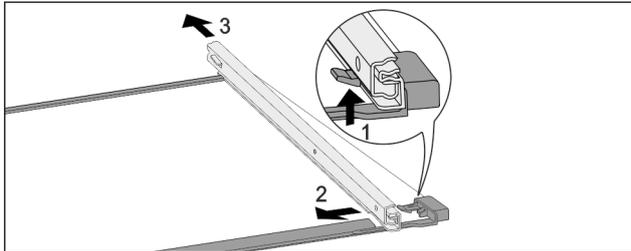

Fig. 77 Glass shelf with rails
- ▶ Push up front click-in hooks. Fig. 77 (1)
- ▶ Slide pull-out rails to the side Fig. 77 (2) and backwards Fig. 77 (3).